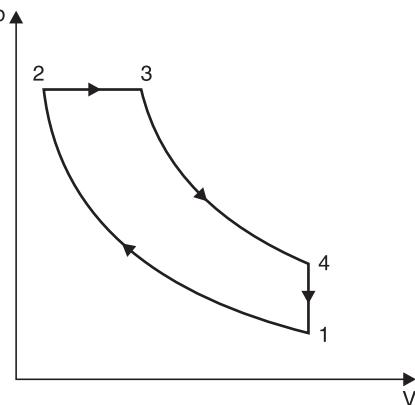

Fig. 4.18. Diesel cycle.
**Solution.** Refer Fig. 4.18.
The cycle is shown in Fig. 4.18, the subscripts denote the respective points in the cycle.